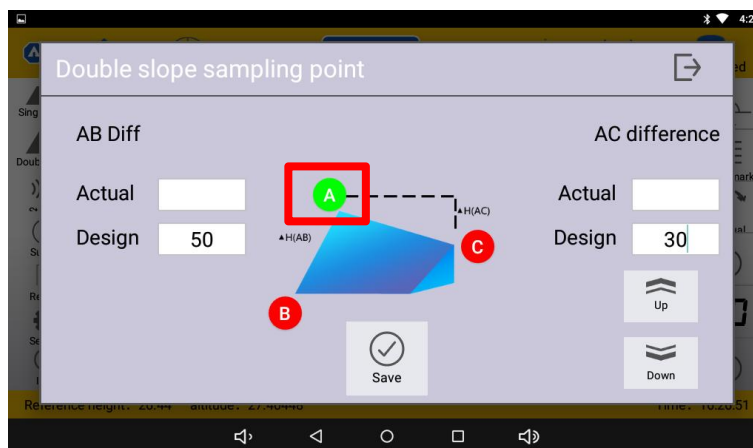

Figure 15
Step4. Drive to the highest point A, click the Down button to stick the blade to the ground, click the A icon on the interface, and the icon turns green to indicate that the high point collection is complete. (Figure 15)